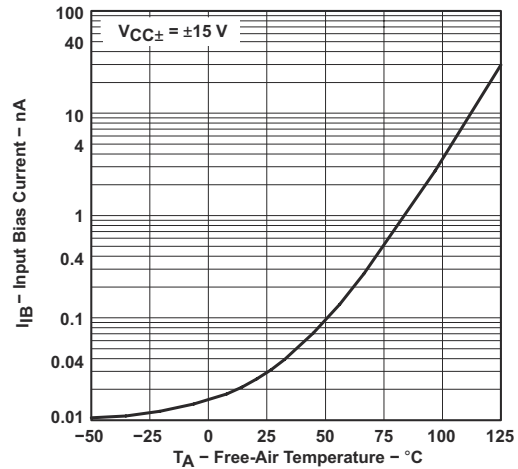

FIG 6-12. Input Bias Current vs Free-Air Temperature
- (1) All characteristics are measured under open-loop conditions with zero common-mode input voltage unless otherwise specified. Full range for T_A is 0°C to 70°C for TL06xC, TL06xAC, and TL06xBC and -40°C to 85°C for TL06xI.
- (2) Input bias currents of an FET-input operational amplifier are normal junction reverse currents, which are temperature sensitive, as shown in Figure 6-12. Pulse techniques are used to maintain the junction temperature as close to the ambient temperature as possible.
- (3) Specified by design and characterization; not production tested.
- (1) All characteristics are measured under open-loop conditions with zero common-mode input voltage, unless otherwise specified. Full range for T_A is 0°C to 70°C for TL06xC, TL06xAC, and TL06xBC and -40°C to 85°C for TL06xI.
- (3) Assured by design and characterization; not production tested.
- (1) This parameter is not production tested.
(2) All characteristics are measured under open-loop conditions, with zero common-mode voltage, unless otherwise specified.
(3) Input bias currents of an FET-input operational amplifier are normal junction reverse currents, which are temperature sensitive, as shown in Figure 6-12. Pulse techniques are used to maintain the junction temperature as close to the ambient temperature as possible.
(4) Specified by design and characterization; not production tested.